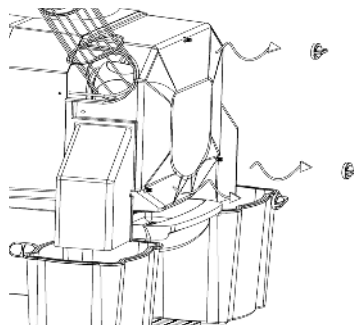

Figure 8
4- By unscrewing female screws (46) remove the front cover (44) (Figure 8).